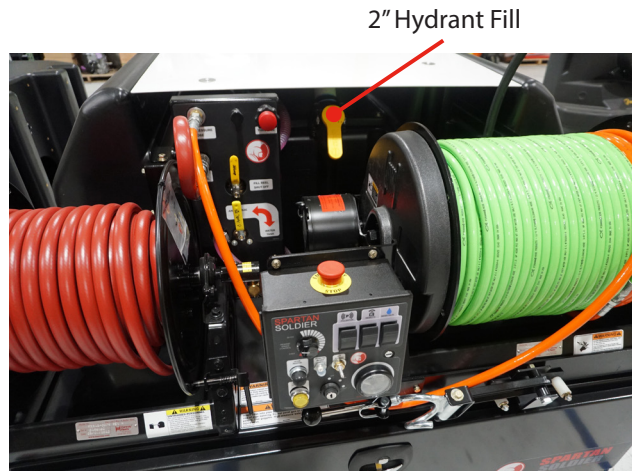

Fig. 23.1
15. Open hydrant fill valve to confirm that no water is trapped (Fig. 23.1).